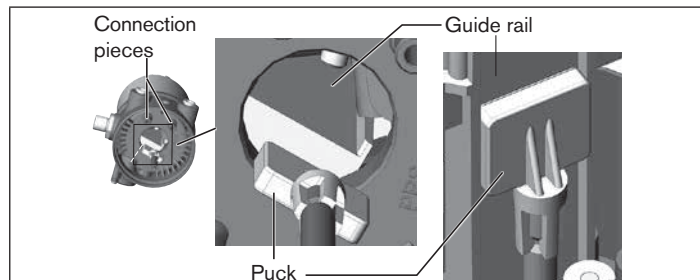

Fig. 6: Aligning the puck
1. the puck can be inserted into the guide rail of the control head (see "Fig. 6") and